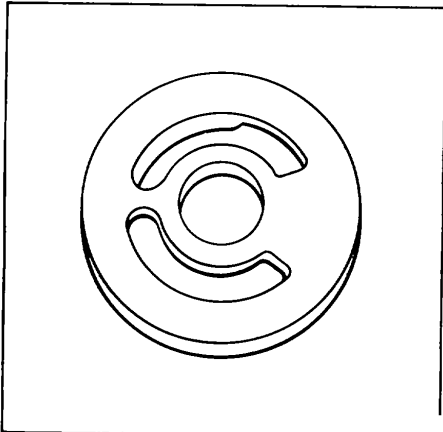

Figure 152.
28. Visually inspect upper (45) and lower (42) valve plates. If circular wear patterns can be felt, discard both the upper and lower plate. See Fig. 152.